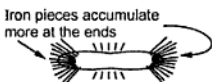

Fig. 3.1 Natural magnet
i) When such a magnet is rolled into iron pieces it will be observed that iron pieces cling to it as shown in Fig. 3.1.